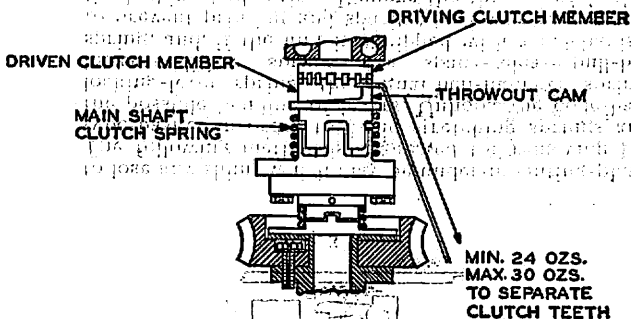

Fig. 2
clutch-member and pull down as nearly in line with the shaft as possible. On some units operated at 75 speed a heavy tension spring is used. When this heavy spring is in a unit the tension shall be Min. 34 oz., Max. 44 oz. Fig. 2
(1) With the carriage in the Figs. position, the figure 2 should print in the middle of the platen-roll. Gauge by eye.